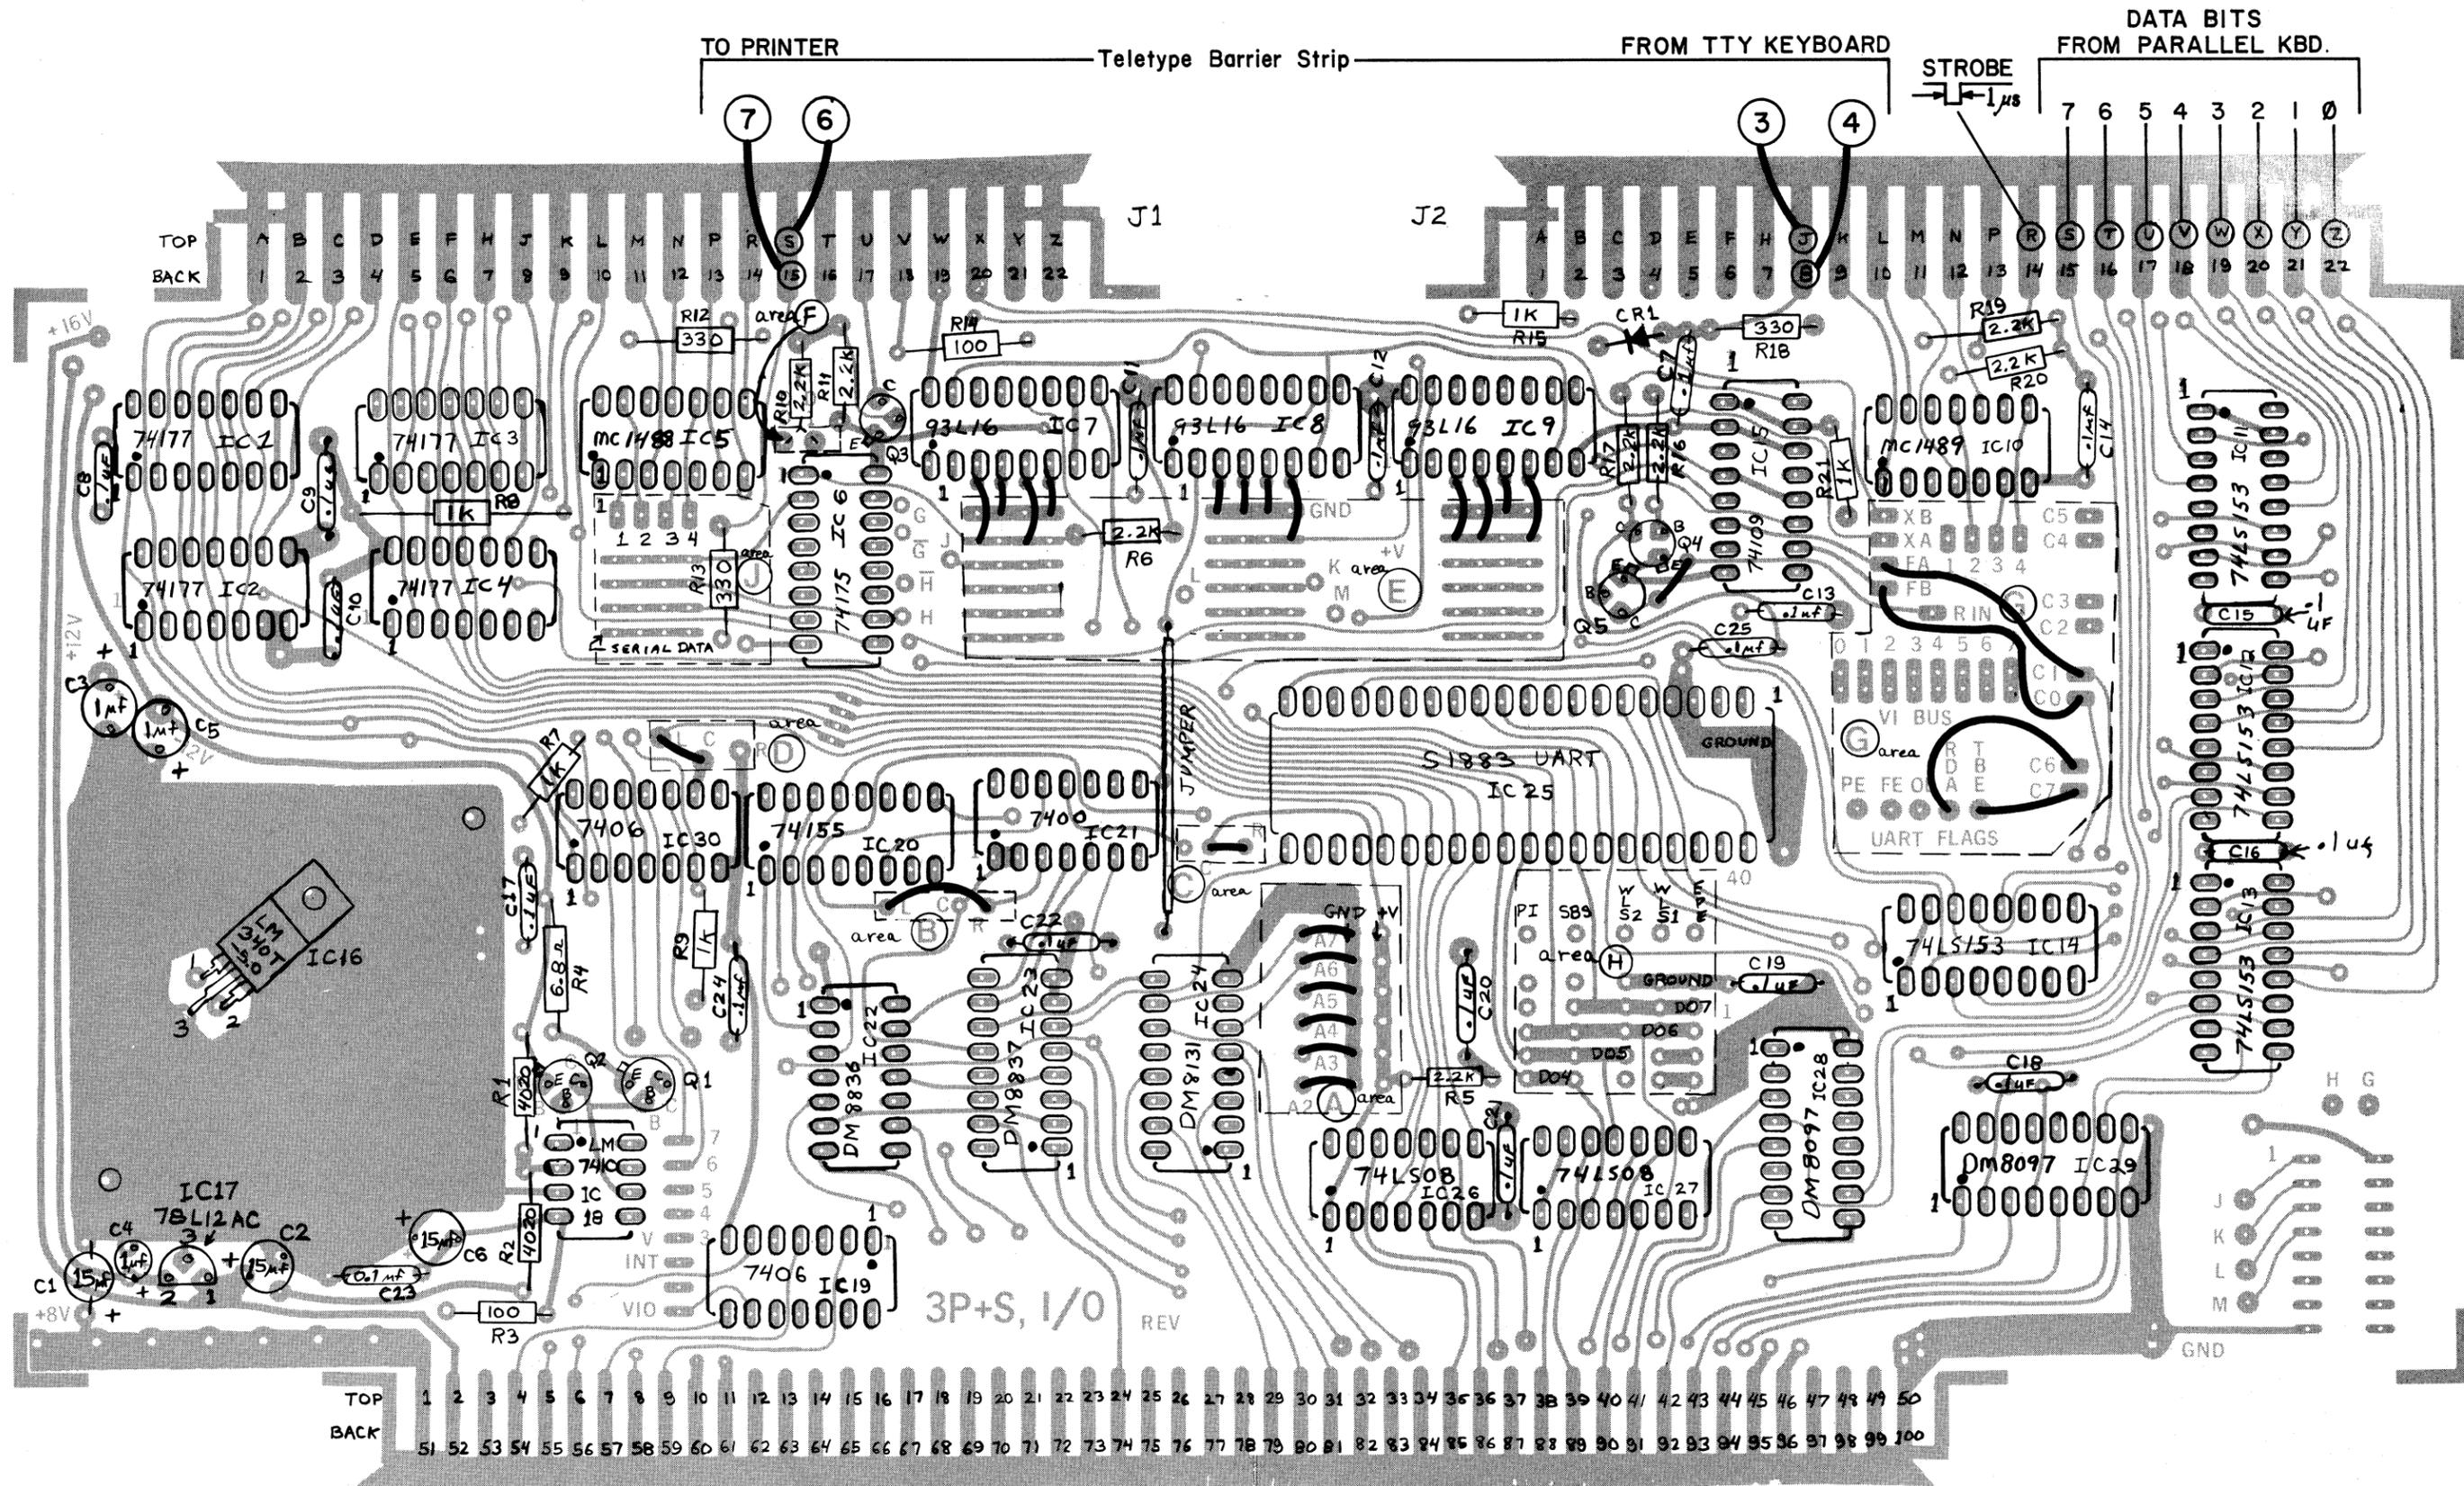

Figure 4. Jumpering 3P+S for Keyboard Console and Current Loop Serial Interface
3.1.2 JUMPERING 3P+S FOR KEYBOARD CONSOLE AND CURRENT LOOP SERIAL INTERFACE (Fig 4)
() In Area E, install 12 jumpers as illustrated in Fig. 4.